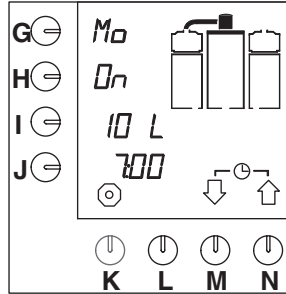

Fig. 13 Waiting mode timer
- An enter symbol appears ↵ on the display. The clock in the display starts flashing and the system will make coffee at the set time. The waiting mode appears on the display (fig.13 ).
- The clock in the display starts flashing and the system will make coffee at the set time. The waiting mode appears on the display (fig.13 ).